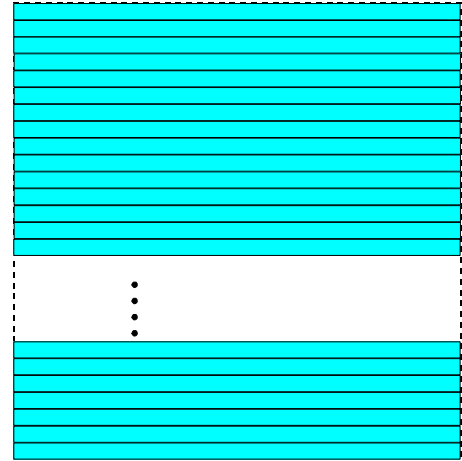

Fig. 96: Decimation Disabled
- 1: the complete frame will be transmitted out of the camera (no sub-sampling is realized); see Figure 96. This is valid for mono and color cameras.